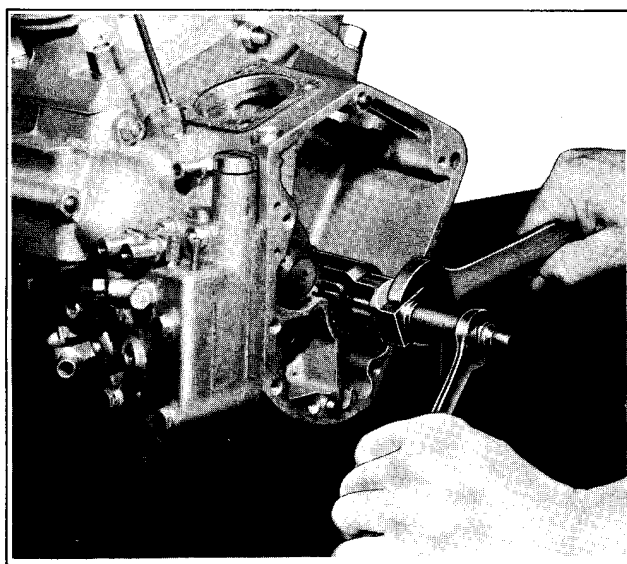

Figure 3-28. Pulling Pinion Gear
2. Remove two circuit breaker cover screws (5), cover (6) and gasket (7) from gearcase cover (17).
3. Remove circuit breaker cam assembly bolt (8). Remove hex screws (9 or 9A), lock washers and washers (10) or retainer (10A) and circuit breaker plate assembly (11).
4. Remove circuit breaker cam (12) and circuit breaker advance assembly (13).
6. Tap gearcase cover with wood or rawhide mallet to loosen and remove gearcase cover (17) and gearcase cover gasket (18).
7. Remove breather valve spacing washer (19) and breather gear (20).
8. Remove cam gear (21), spacing washer (22), and thrust washer (23).
9. Remove pinion gear shaft nut (24) which has a lefthand thread. Use Gear Shaft Nut Socket Wrench, Part No. 94555-55. Pull pinion gear (25) using Pinion Gear Puller and Installer, Part No. 96830-51 as shown in Figure 3-28. Tool has lefthand threads.
10. Remove key (26), gear shaft pinion spacer (27), oil pump pinion shaft gear (28) and key (29).
11. Use a lock ring pliers such as snap-on No. 70B, and remove oil pump drive gear shaft lock ring (30), drive gear (31) and drive gear key (32).